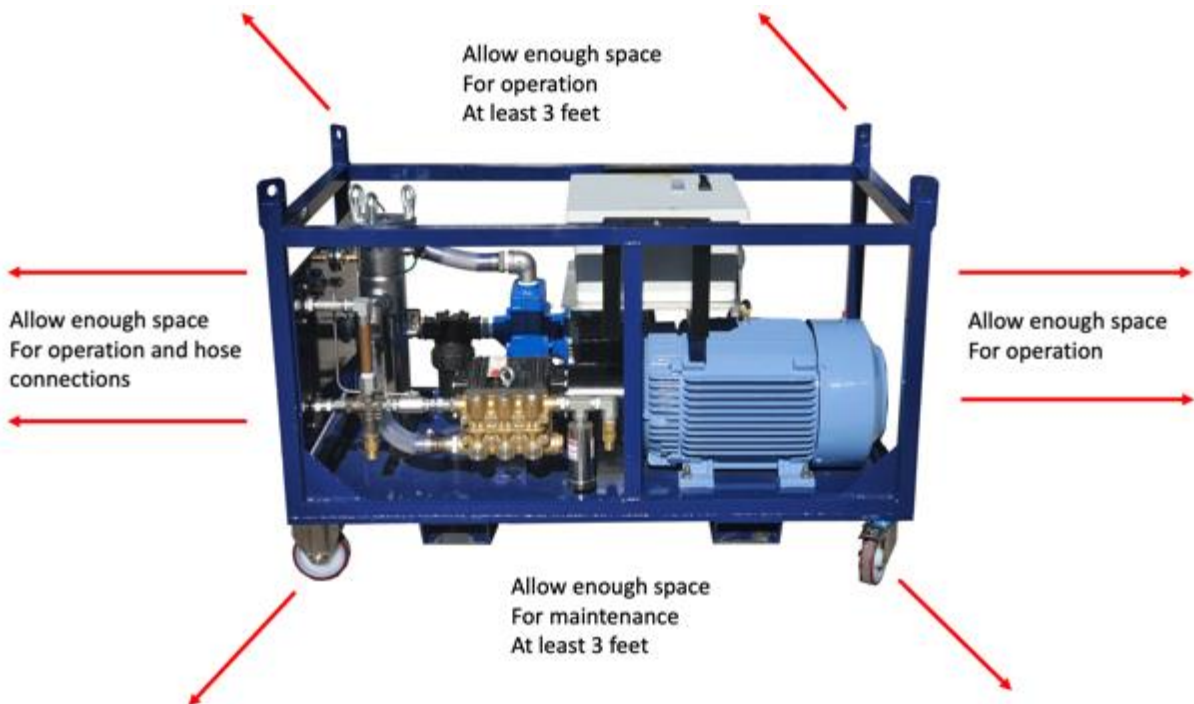

Figure 4.2 – Installation Guidelines
Figure 4.2 – Installation Guidelines.....	15
*** Enclosed installations will require provisions for adequate motor cooling air flow. See Figure 4.2 below.**